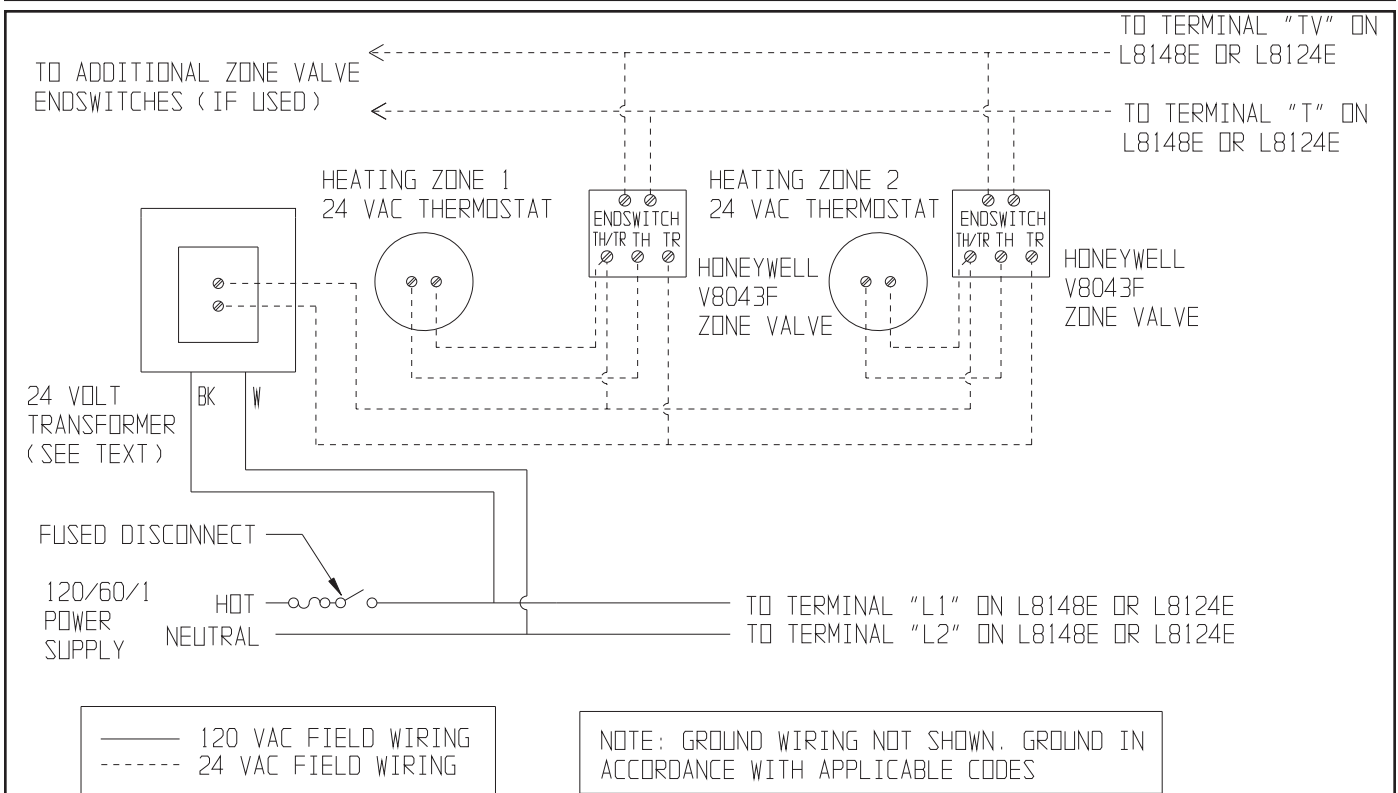

FIGURE 21: ZONE WIRING USING HONEYWELL V8043F ZONE VALVES
- 2) **Multiple Zones using Zone Valves** – Figure 21 shows wiring for multiple zones using Honeywell V8043F zone valves. This wiring diagram may be used for other 24-volt zone valves as long as they are equipped with end switches. Do not attempt to use the transformer on the limit control to power the zone valves; use a separate transformer. Up to five V8043Fs may be powered by one 48VA transformer, such as the Honeywell AT87A.